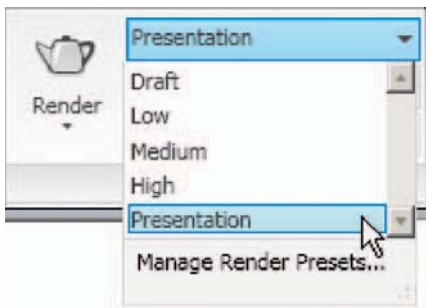

Fig. 15.36 Setting the form of rendering to **Presentation**
6. Select **Presentation** from the **Render Presets** menu in the sub **Render/Render** panel (Fig. 15.36).